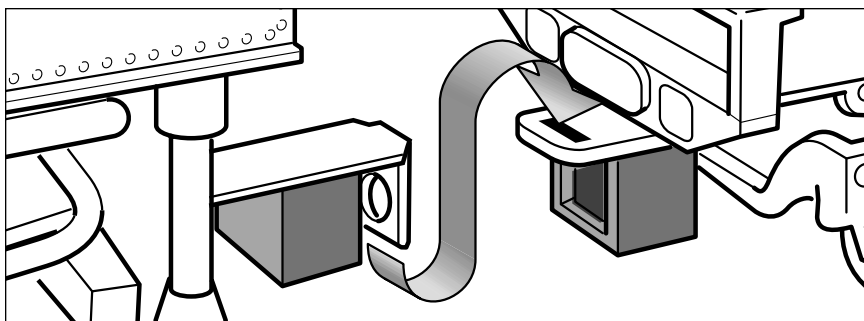

Figure 1. Drawbar connection
2. Connect the drawbar between the locomotive and tender as illustrated in Figure 1.